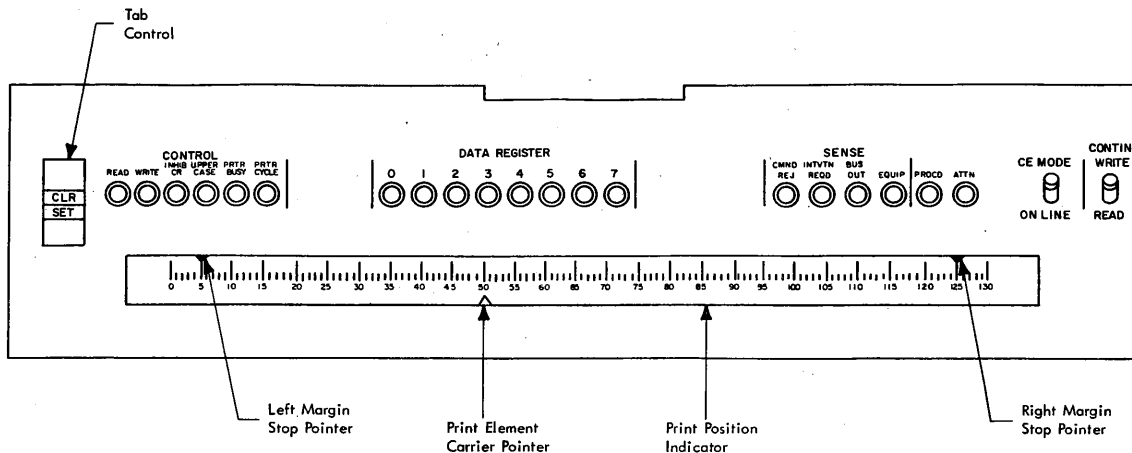

Figure 34. Indicator Panel
Control Lights - See Figure 34.
Sense Lights - See Figure 34.
Tab Control - This switch (Figure 34) in conjunction with the space bar, enables a tab stop to be set (set) or cleared (clear) at any printing position.
4. Close the top cover, and verify the margin stop positioning in the print position indicator (Figure 34).
1. Position the carrier to the desired position with the space bar. Observe the print-element carrier pointer in the print position indicator (Figure 34).
2. Position the print element to the desired position between the left and right margin stops. Observe print-element carrier pointer in the print position indicator for correct positioning (Figure 34).
5. When the system accepts the request, the attn light is turned off, and the procd and read lights are turned on (Figure 34).